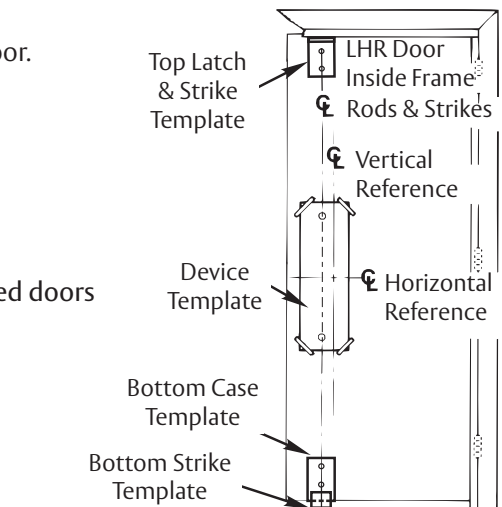

Figure 6
- Locate Device Template aligning VERTICAL REFERENCE and HORIZONTAL REFERENCE lines on door and template. Tape template to door face. (Figure 6)